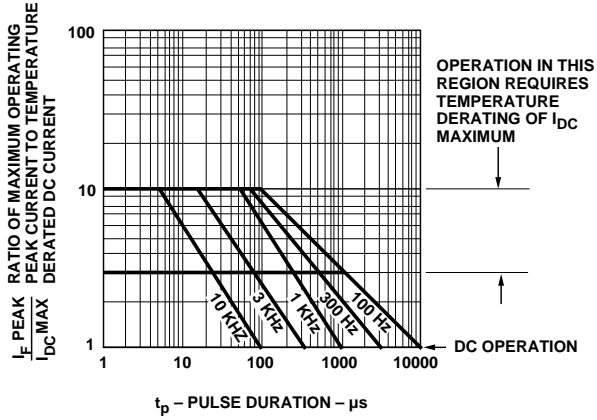

Figure 9. Maximum Tolerable Peak Current vs. Pulse Duration - HER.
4. See Figure 9 to establish pulsed conditions.